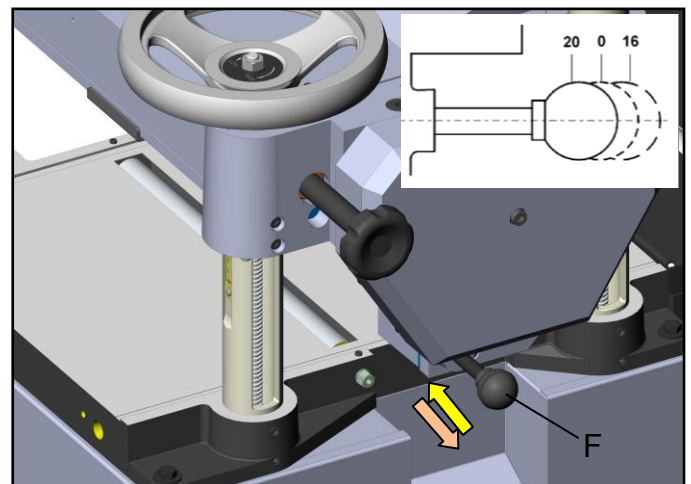

Fig.12
Your machine is equipped with a spiral, serrated infeed roller and a solid steel outfeed roller. When the feed rollers are engaged, they turn and feed the stock. The feed rollers slow automatically when the machine is under heavy load for best planning under all conditions. The feed rollers are driven by a chain and sprocket drive, which takes power directly from the cutterhead through the oil bath gearbox. To engage the feed rollers, pull out the lever (F), Fig. 12. To disengage the feed rollers push in the lever. To change the feed speed, push in the lever for 20 FPM or pull the lever out for 16 FPM. Set the lever in the neutral position for zero speed.
**Warning:** The feed speed should only be changed when the machine is running.(Fig.12)